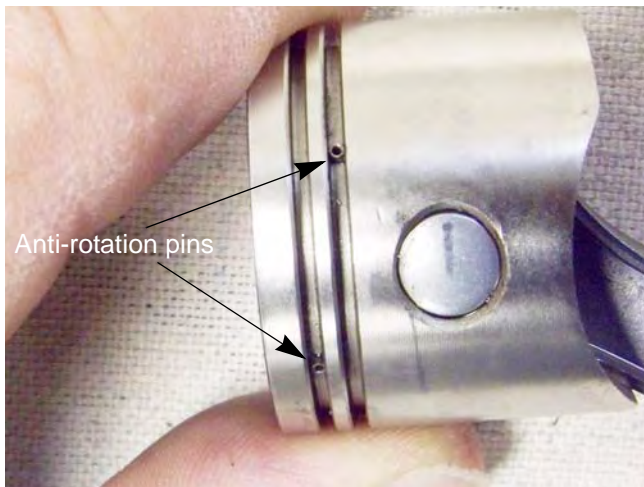

Figure 8.11
**NOTE:** There is an anti-rotation pin in each piston ring groove to prevent the end of a ring from getting caught on a port. See Figure 8.11.